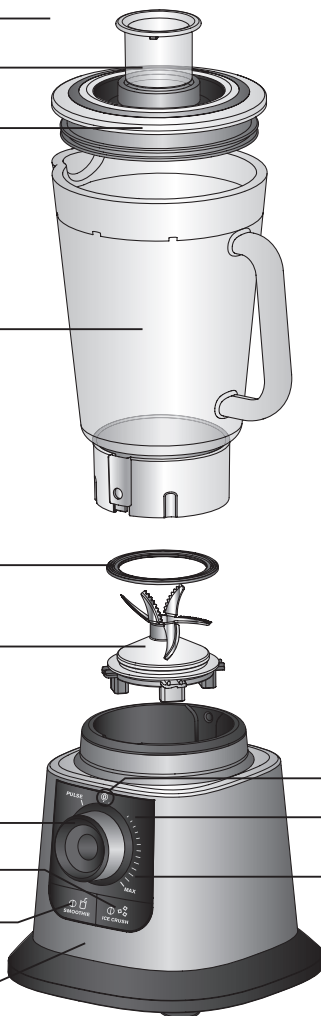

fig. 1
- Fit the gasket seal **(e2)** on the blade unit **(e1)** **(Fig.1)**.